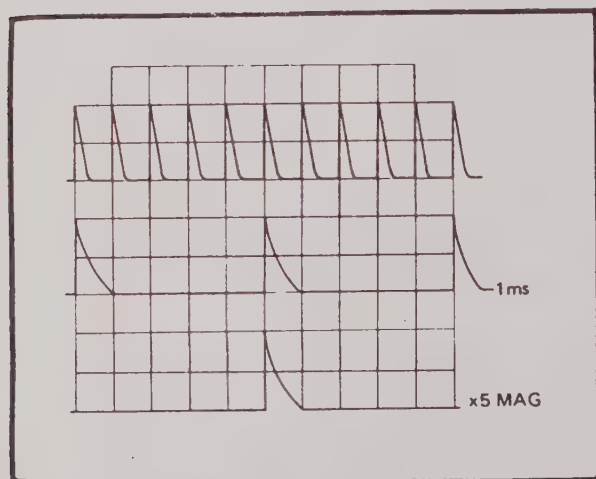

Fig. 30. X5 MAG Centering and Gain Adjustment.
2. Set horizontal POSITION control at mechanical center. Be sure to use the mechanical center of rotation. If necessary, loosen knob set screw and reposition knob pointer to top (12 o'clock) before adjustment. Adjust VR10 to center pulses on screen (Fig. 30).
1. Set SWEEP TIME/DIV control to 1 ms and apply 1 ms marker signal to CH A input. Markers will be 1 division apart (Fig. 30).
2. Pull out the PULL 5X MAG knob and adjust VR14 so there are 5 divisions between marks (Fig. 30).
3. With 1 ms markers still applied, set sweep time to 0.2 ms/div. Without 5X MAG there should be three markers displayed (Fig. 30). Set horizontal POSITION control so center marker is in center of screen.